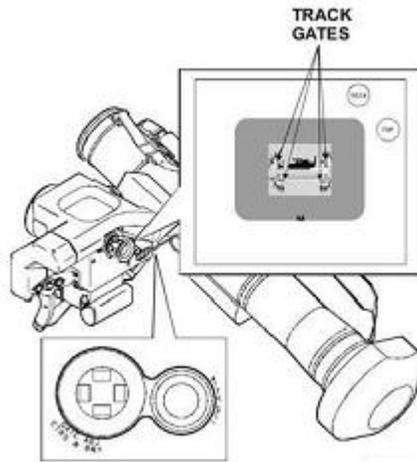

Figure 4. Track Gates around edge of target.
- a. Position track gates around outer edge of target by pressing gate ADJ/CTRS & BRT switch, up, down, right or left (Figure 4).